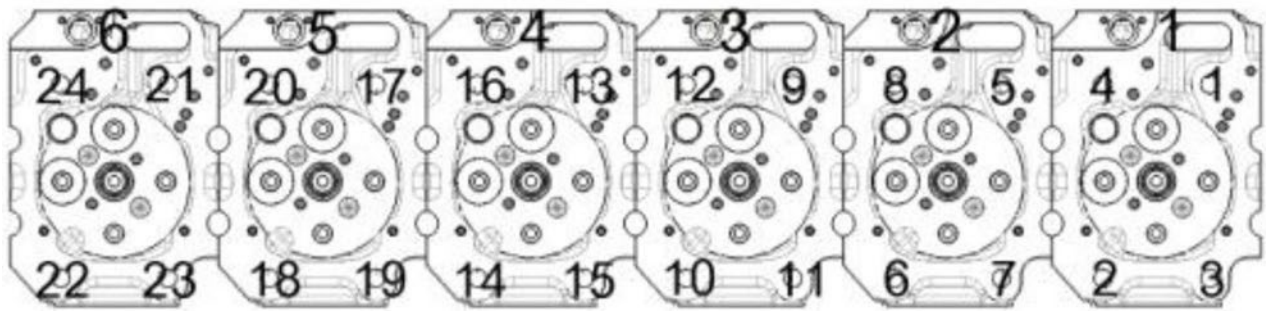

Figure 83. Main Bolt Torquing Order
4. Tighten the main bolts in order (Figure 83) 1 through 24 to a torque of 59 ft/lbs.